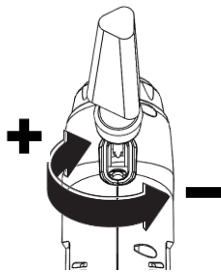

Fig.4
3. Turn the screw plug as Fig.4 to setup the torque.